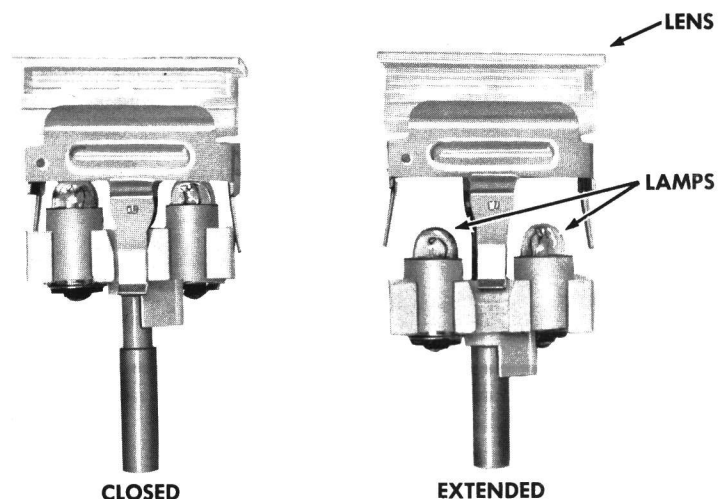

Figure 6 - Switch Indicator Assembly
3. Reinstall the indicator assembly. The assembly must be in the extended configuration shown in Figure 6 before it can be reinstalled in the panel.